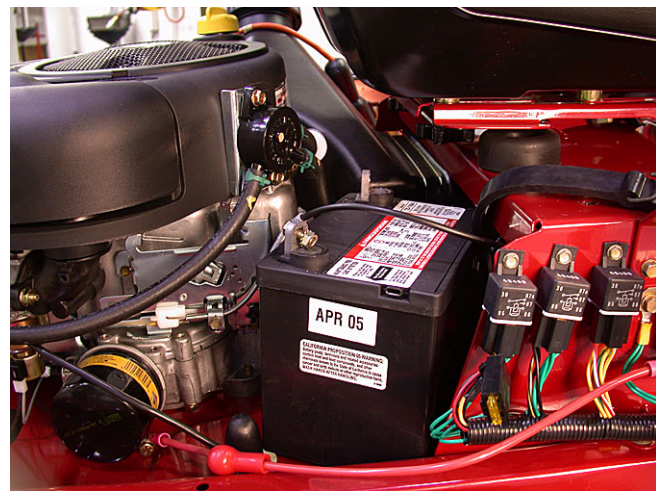

Figure 14.10
- 14.10. With the right side console removed the battery will slip out the side easily. See Figure 14.10.